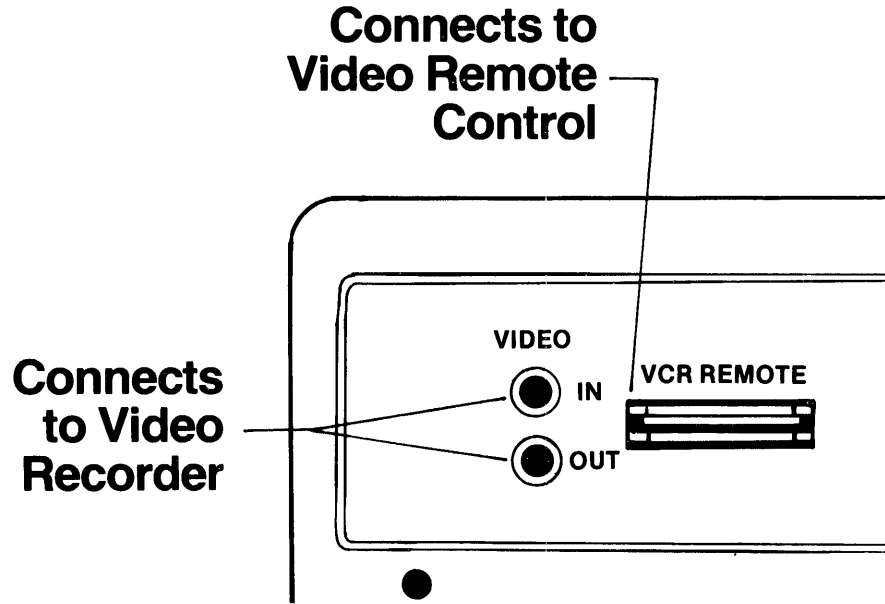

Figure 9. Video Connections
8. Connect the video cable into the VIDEO OUT of the drive to the VIDEO IN of the VCR and the VIDEO IN from the drive to the VIDEO OUT of the VCR (see Figure 9).
9. If you are using a Panasonic NV8200 with the remote option, install the remote cable to the connector VCR Remote on the rear bezel (see Figure 9).